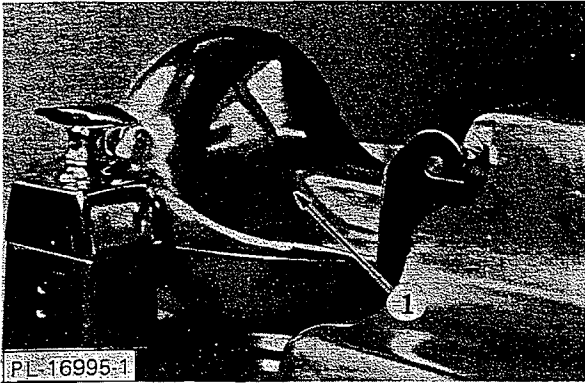

Fig. 7
C.5.2.3 Raise bowl cover (1, Fig. 7) to clear knives and bowl. Lift bowl cover off. To reassemble, slide hinge over hinge pins and lower bowl cover into position.